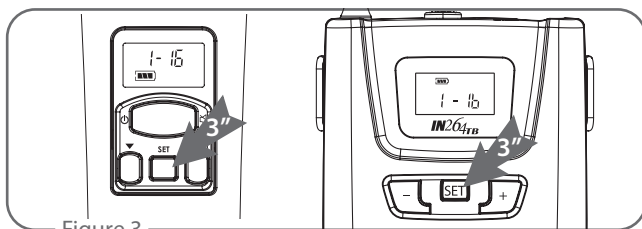

Figure 3
- (1) Press "Set" button (20) (28) for 3 seconds, LCD Panel will start flashing.
- (2) Press "Set" a couple of times until "ID Code" setting window shows.
- (3) Press "▲Up (21) (29)" or "▼Down (22) (30)" button to select a distinct ID code from "id 0" to "id 99". (Figure 3)
- (4) After setting, press "Set" again to save the settings.